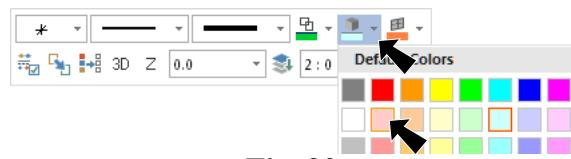

Fig. 20
Step 1. Right click in the graphics window and on the Mini Toolbar click Solid Color  drop down arrow, then click light red, Fig. 20.